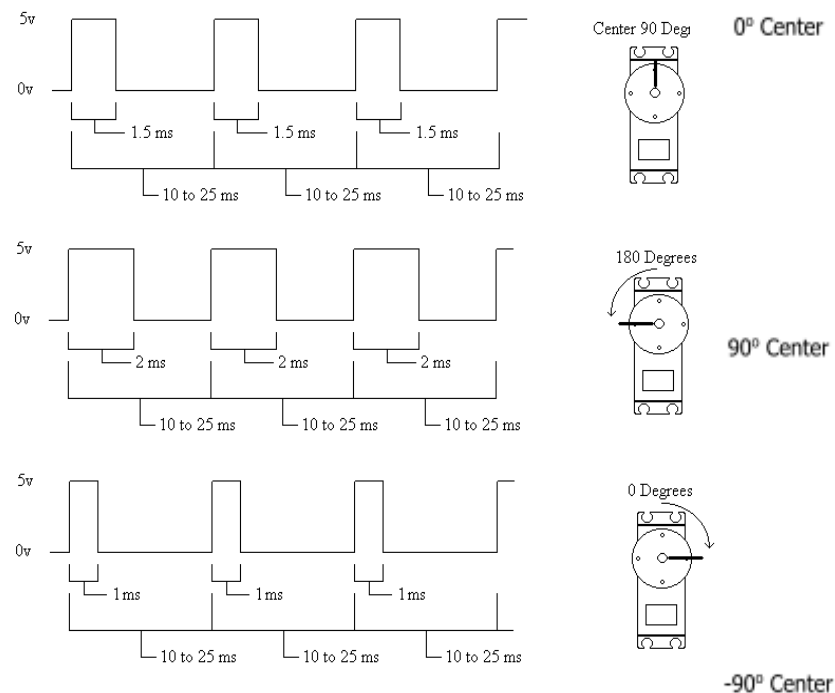

Figure 3. PWM Signal used in controlling a RC servo
RC servos are small actuators widely used in remotely controlled (RC) toys (i.e. cars, planes, helicopters and boats). These are compact actuation mechanisms that provide an easy way of achieving position control in small scale applications where precision and accuracy is not critical. Each RC servo is composed of a small DC motor attached to a gear train, a potentiometer and a simple controller. The gear reduction provides a reasonable amount of torque compared to their size. As the name implies, the RC servo has a sensor that tells the current position of the shaft to the controller that is built into this system, namely the potentiometer. The built-in controller compares the current position (measured from the pot) with the target (sent from uController such as Arduino, Pi Pico, ESP32, or even SBCs such as Raspberry Pi 3-4 etc) and creates a control signal that will move the output shaft to a position that decreases this difference. By now if you do not already know, you should have started wondering how we can set the reference position (in other words, how to tell the motor where to go). The reference position is provided by using a PWM (pulse width modulated) signal. Almost all of the RC servos that you will find on the market will have a range of 0-180°. The built-in controller of RC servos control the rotor position within this range. Generally, one end of this range is referred to as -90° and the other as +90° (even though there is no harm if you prefer 0-180°). Figure 3 illustrates the ideal working conditions of RC servos. As shown, RC servos can be rotated to specific positions by sending PWM signals, the ON (high) time of which determines the target position of the motor. In order to reach and maintain a position this PWM signal has to be **continuously sent** to the motor via its signal pin. Ideally the high time of these signals will change between 1 to 2 ms. Low time of these signals can be anywhere between 10 to 25 ms. Use of 10 ms for low time is recommended. Even though ideal high times should be within [1-2]ms range, in practice this range will slightly change and in this lab you will determine these limits empirically.
Figure 3 illustrates the type of PWM that you have to generate in order to control the position of the RC Servo. Even though only three discrete positions are illustrated; the servos can be controlled continuously between -90° ($P_{\min}$) and 90° ($P_{\max}$) degrees.
Figure 3 illustrates the theoretical operation of RC servos. However, in practice, the actual values for RC servo limits might deviate from these theoretical ones. Connect the servo pins as follows: middle pin is 5V (mostly supply wire is red), generally the darker colors such as black or brown are used to indicate ground, and the remaining pin is for signaling desired motor position. By the way, use a separate 5V source to feed the servo and make sure that both sources have the same ground. You can get regulated voltage from your PCB supply (again, your turn to figure out how) or you can use a separate regulator such as LM2596 or 7805 for this purpose if you already have. Before you connect the OUTput of the regulator, make sure that you measure the output voltage and guarantee that it is around 5V.